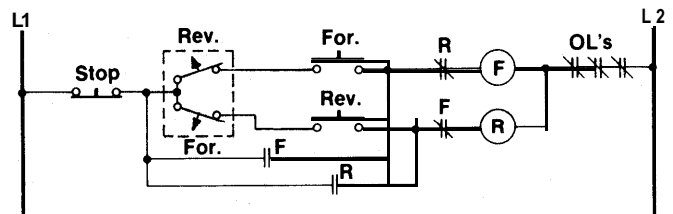

FIGURE 2
**ANTIPLUGGING** — For this application, the switch with normally closed contacts is used. The speed switch is designed to keep the reverse circuit open until the speed of the driven machine has decreased to a predetermined value. At this speed the contacts are designed to close, permitting reverse energization to be applied manually, or automatically when using a second speed switch arranged for plugging duty. Mechanical braking can also be used. The speed switch can be used for antiplugging control in either or both directions. See Figure 2.